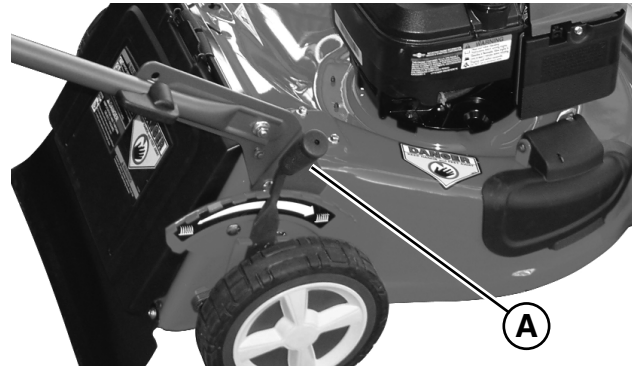

Figure 4
- Move the cutting height adjust lever (A, Figure 4) to the desired cutting height.